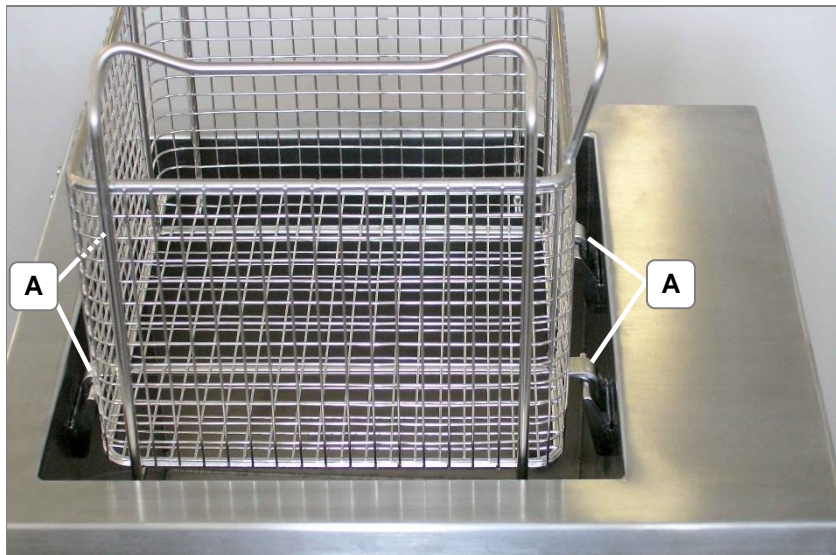

Fig. 4.9.1 Cleaning basket in drip-off position
**Drip-off position** The cleaning basket is placed onto the 4 suspension elements in the tank by the 4 hooks at the bottom (see *fig. 4.9.1.A*). The bow should point to the unit front (this makes sense for units that are fitted with flip-top cover).